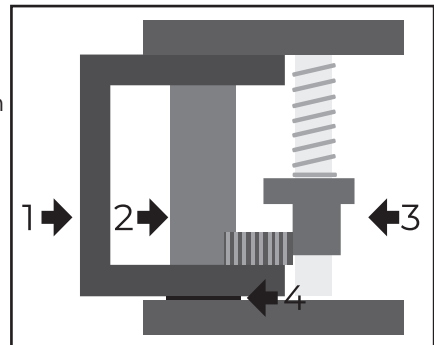

Fig. 23
1. Remove spring washer (4, Fig. 23) from pin and then pin (2, Fig. 23) from arm (1, Fig. 23).
2. Lubricate pin, toothing latch and toothing latch lift body (3, Fig. 23) with EP40 multivet.
4. Remove spring washer (4, Fig. 23) with spring washer pliers, insert rubber pad. Replace spring washer (4, Fig. 23) when lift is in raised position.